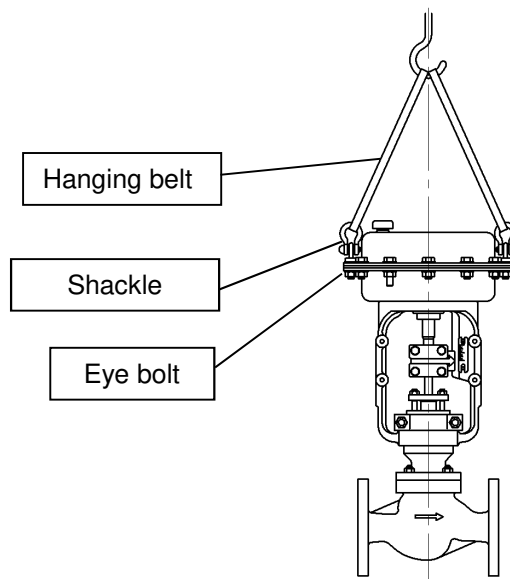

Fig.4
- (1) Due to heavy product, make sure to use hanging machine to hold the product. When hang this product up from package, use adequate hanging belt. Eye bolt is installed at actuator in aim of hanging. When using eye bolt, use both eyebolt and make hanging belt same load at both side. (See Fig.4)